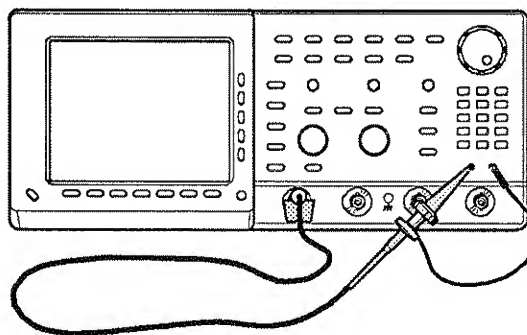

Figure A-3: Universal Test Hookup for Functional Tests
- a. *Hook up the signal source:* Install the probe on **CH 1**. Connect the probe tip to **PROBE COMPENSATION SIGNAL** on the front panel; connect the probe ground to **PROBE COMPENSATION GND**. (See Figure A-3 on page A-32.)